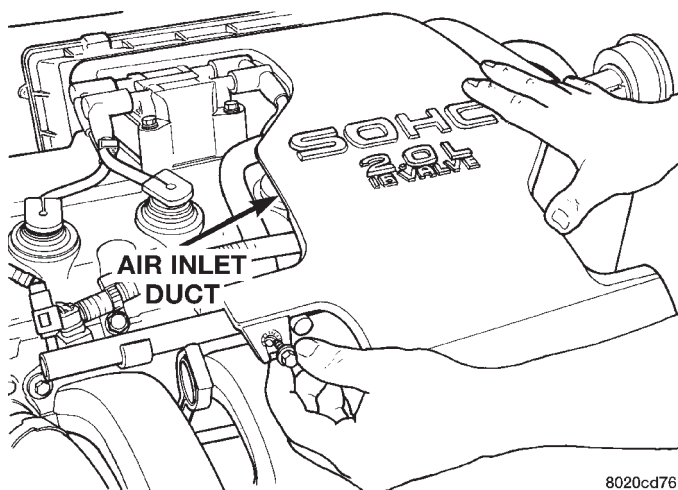

Fig. 35 Air Cleaner Inlet Duct
(1) Perform fuel system pressure release procedure **before attempting any repairs**. Refer to Group 14, Fuel System
(2) Disconnect negative battery cable. Drain cooling system. Refer to Group 7, Cooling System.
(3) Remove air cleaner inlet duct and air cleaner (Fig. 35), disconnect all vacuum lines, electrical wiring and fuel lines from throttle body.